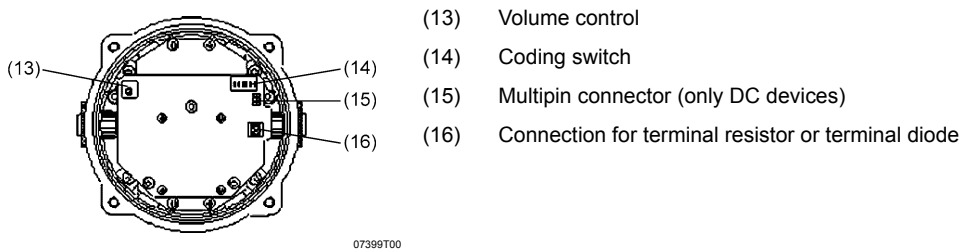
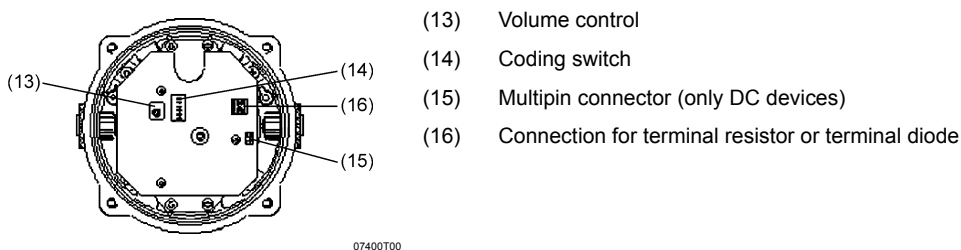

Fig. 5: Board in the flameproof enclosure of type 8493/11-21 horn
Fig. 6: Board in the flameproof enclosure of type 8493/11-22 horn
In the flameproof enclosure (Fig. 5 and Fig. 6):
All DC horns are equipped with reverse battery protection diode. A terminal diode or a terminal resistor can be connected using corresponding connections (16) in the flame-proof enclosure (see Fig. 5 and Fig. 6). In case terminal resistor is used, its minimum value must be 3.3 k $\Omega$  and minimum value of power must be 0.5 W or minimum value of resistance 500  $\Omega$  and power of min. 2 W.
All horns except for the 12 V DC devices are equipped with volume control (13) (see Fig. 5 to Fig. 6).